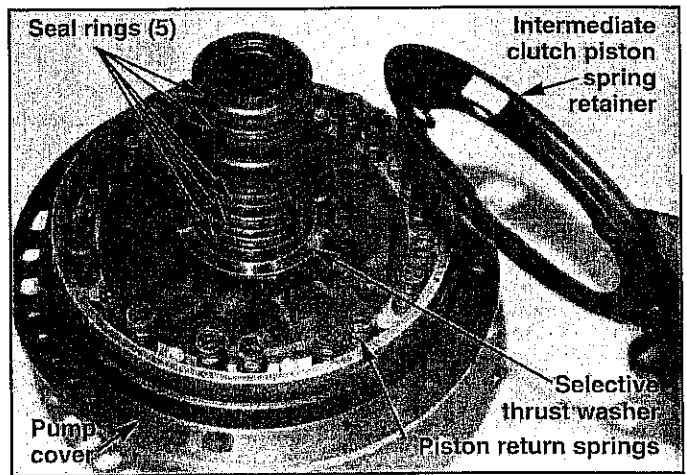

FIGURE 25
STEP 3. Remove and discard five metal hook-type or removable Teflon seal rings from the back of the cover. (See Fig. 25) Remove the selective metal thrust washer. Remove the intermediate clutch piston spring retainer and twenty or thirty piston return springs. Note the color code of the springs. (Note: Some late model units have the springs attached to the retainer. Do not try to remove them from their staked position.)